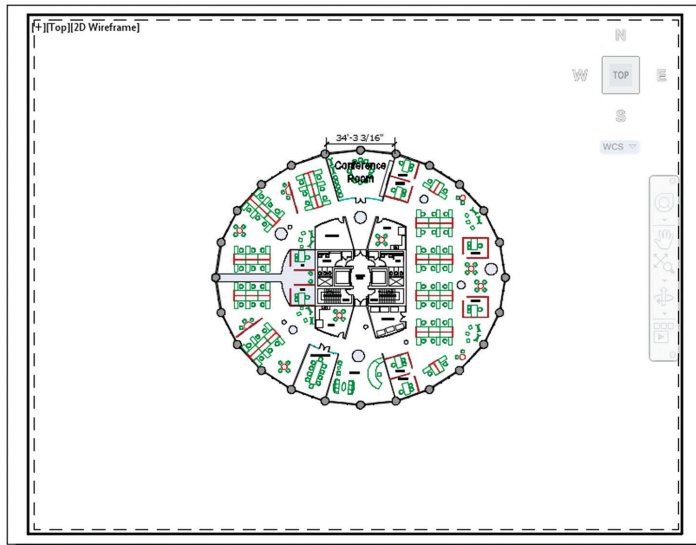

FIGURE 13.17 Finding the largest scale that will fit on the page
7. Zoom in, select the single dimension object, and move its dimension line upward for clarity. Note, however, that by zooming, you have changed the viewport scale. Again, select 1/32" = 1'-0" (or 1:300 in metric) from the Viewport Scale menu button on the status bar and pan the drawing to the center of the page (see Figure 13.17).